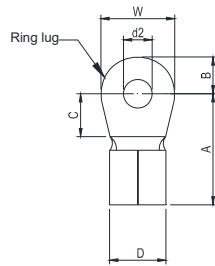

Figure 1.
- Figure 1 shows the terminal specification. The terminal is required for wiring of main circuit terminals.